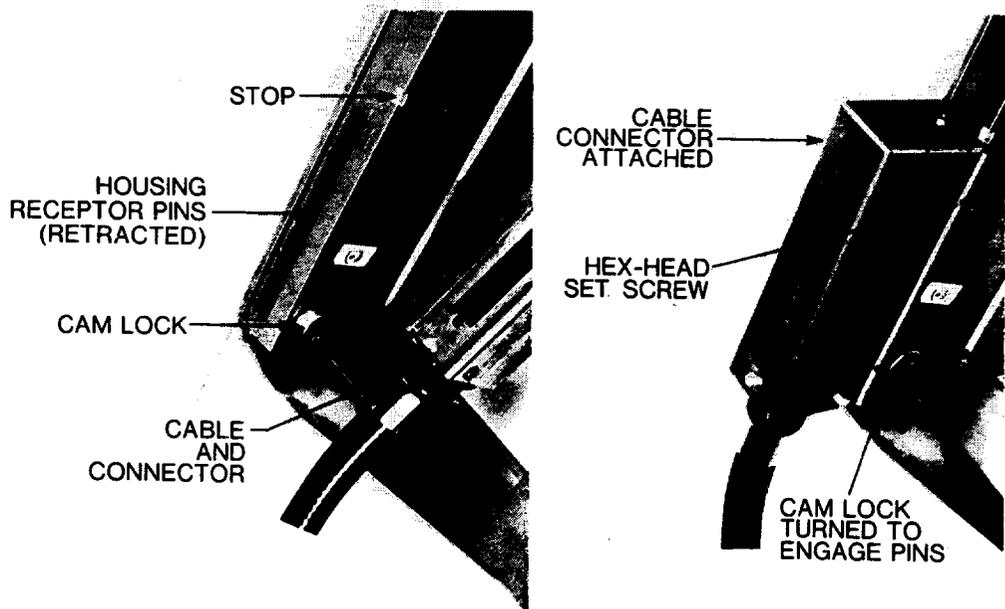

Figure 4-9. Attaching W600 Cable
7. If no auxiliary power supply is required for the channel being installed (typically Channels I and II), install W600 type cable to left-most I/O housing. Slide box end of cable onto left side of housing as shown in Figure 4-9, until the box almost touches the metal stop. Carefully rotate cam connector to mate housing to cable. It may be necessary to pull box slightly down from the stop to obtain proper position to prevent damage to connectors. Tighten hex head lock screw.